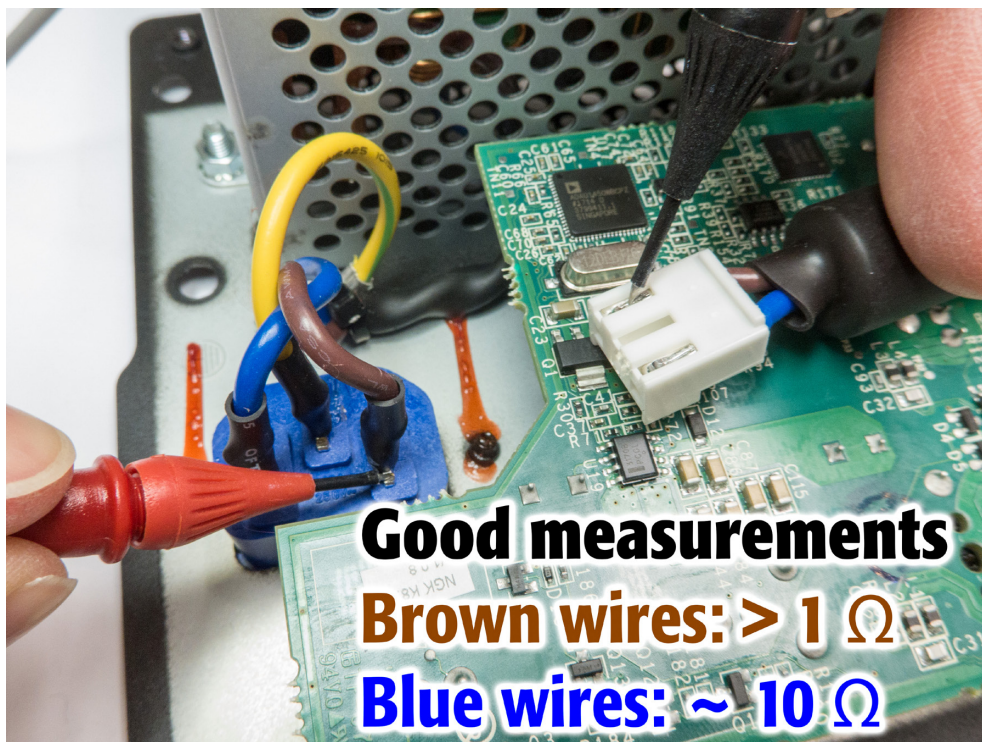

Figure 8.2.2 - Measurement locations for testing the AC line filter board components
5. Using a DMM in Ω mode, make two separate measurements (Figure 8.2.2 shows the brown wires being probed):